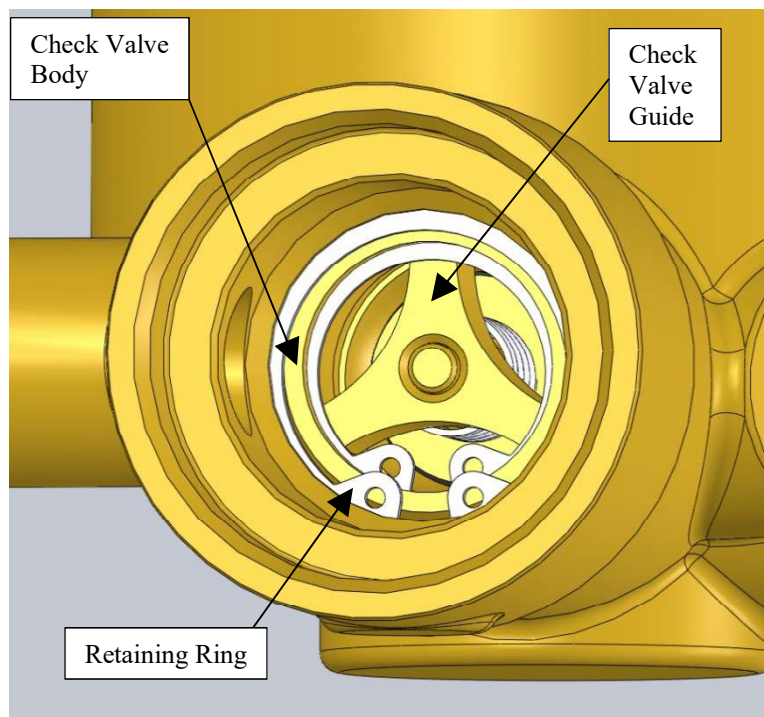

Figure 29: Check Valve Installation Close-up.
2. Remove (2) Socket Head Cap Screws connecting Bracing Bar to Line Regulator section.
3. Carefully pull out (2) Ball Valves with Line Regulator section as shown in Figure 29.